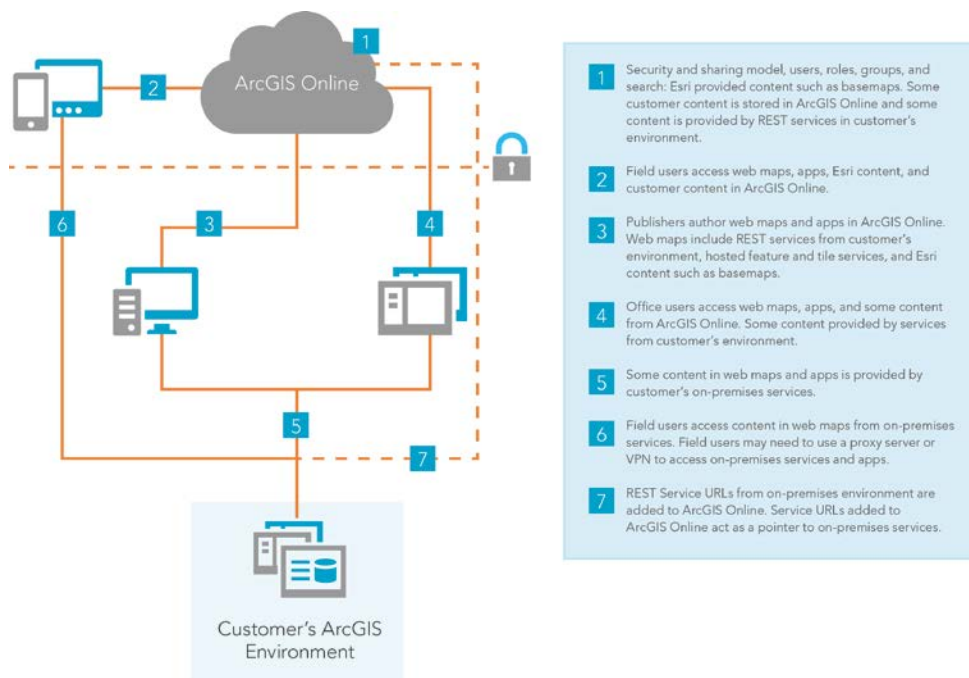

Figure 11: Hybrid ArcGIS Online Deployment Architecture
Therefore, the only difference between the on-premises deployment and hybrid deployment of ArcGIS Online is that publishers can publish data to ArcGIS Online in the form of hosted feature or tile services. Some utility data resides in ArcGIS Online and users can access some of their data via the ArcGIS Online portal (items 1–4 in figure 11).